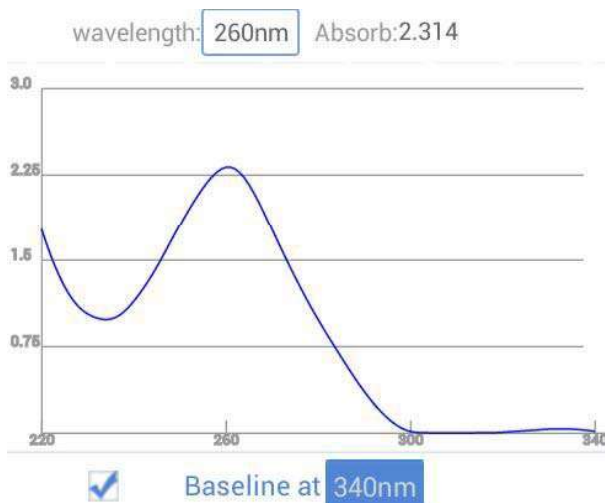

Fig 4.6
4) Absorb:2.314 : Click it to input the wavelength and then the absorbance accordingly will be displayed as Fig4.6.
- ⑤ **Enlarge Curve** : Click it to amplify the Fig 4.6 interface, you can move the red coordinate line to change the wavelength and view the absorbance accordingly.
- ⑥ **Back** : Click it back to the main interface.